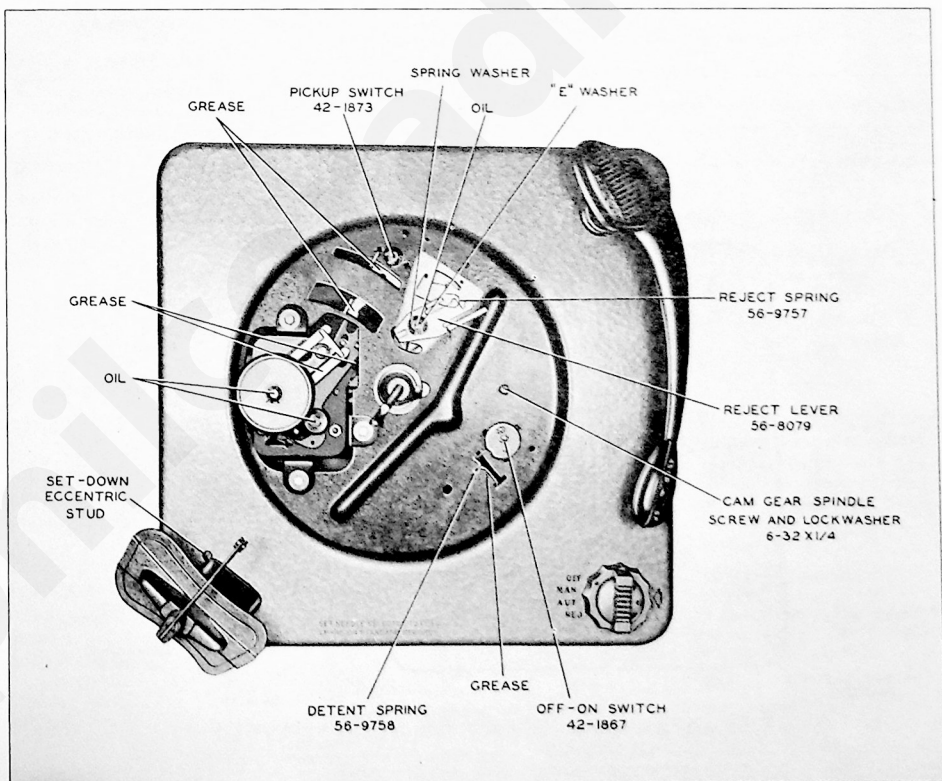

Figure 5. Top View, Showing Lubrication Points
Set the record shelf to the 12-inch position. Set the eccentric stud to its center position toward the corner of the base plate. This stud is accessible through a hole in the base plate near the tone-arm stanchion (see figure 5). Place a 7-inch record on the turntable, set the record shelf to the 7-inch position, and cycle the changer by hand until the tone arm is just above the record. Loosen the hex-head clamp screw on the trip arm (see figure 3), and swing the tone arm until the needle is $\frac{1}{8}$ inch in from the edge of the record. Tighten the clamp screw, and check the adjustment by putting the changer through another cycle. If the set-down point is slightly incorrect, it may be corrected by means of the eccentric stud mentioned above. Recheck the needle set-down. The trip arm should be positioned vertically so that the friction finger is midway between the base plate and the lifter lever. Remove the 7-inch record. Set the record shelf to the 10-inch position, and place a 10-inch record on the turntable. Rotate the turntable until the needle is just above the record. If the needle is not $\frac{1}{8}$ inch in from the edge of the record, an adjustment may be made by bending the ear of the set-down cam which is in contact with the eccentric stud. See figure 1. Bending the ear outward moves the set-down point away from the spindle; bending the
- d. Remove hex-head drive screw from cam-gear spindle. This screw is located on the top of the motorboard under the turntable. See figure 5.